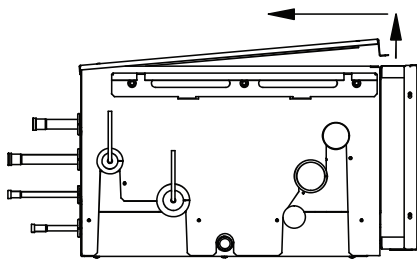

Fig. 17 — Removing the Top Cover
2. Lift up the top cover about 1-1/2 inches and then push it towards the indoor unit port side as shown in Fig. 17.